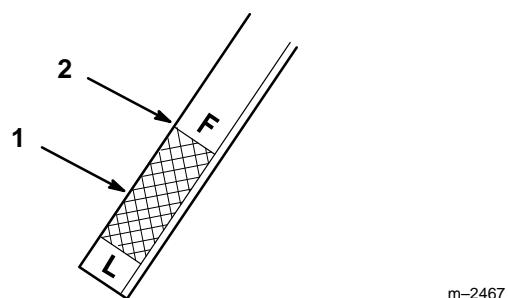

Figure 47
6. Slide the dipstick fully into the filler tube (Fig. 5). Pull the dipstick out and look at the metal end. When the transaxle is cold, oil should be in the operating range, below the FULL line on the dipstick (Fig. 47).